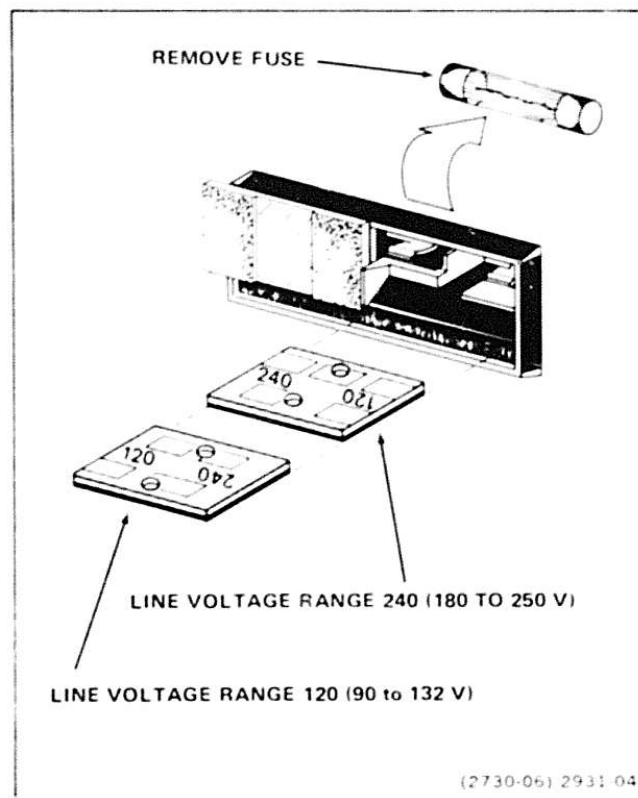

Figure 6. Line voltage selector card positioning.
The power-input module located on the rear panel of the instrument houses a Line Voltage Selector card, a line fuse, and a power-cord connector. To verify correct line voltage selection (or to convert the instrument for operation with a different line voltage range) perform the following procedure (refer to Figure 6).
- Orient the Line Voltage Selector card to its proper position (see Figure 6) and insert it into the power-input module of the A6902.